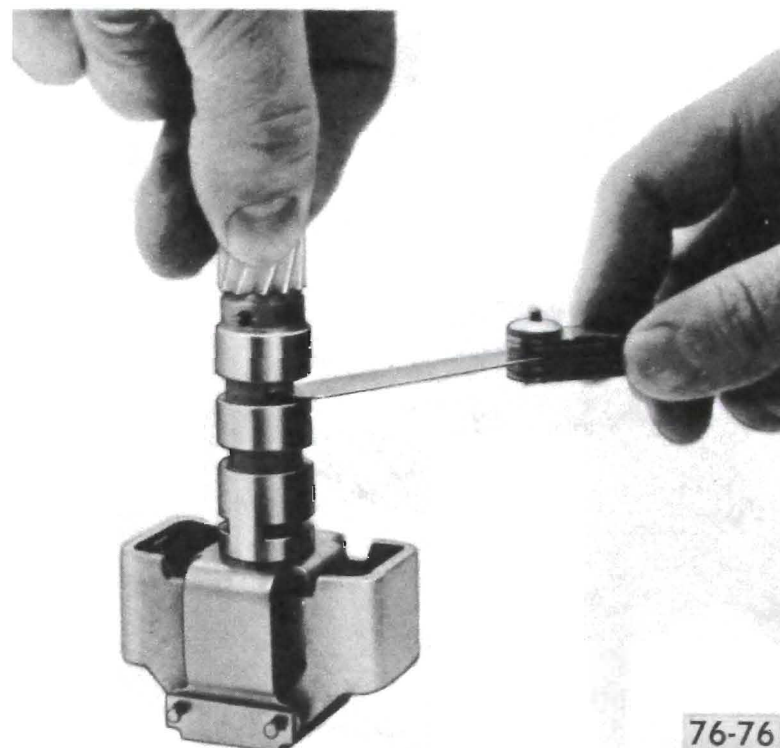

Figure 76-143
10. Check valve opening at entry (.020 inch minimum) with a feeler gage, holding governor as shown in Figure 76-143, with governor weights extended completely outward. For exhaust (.020" minimum) governor weights must be completely inward.